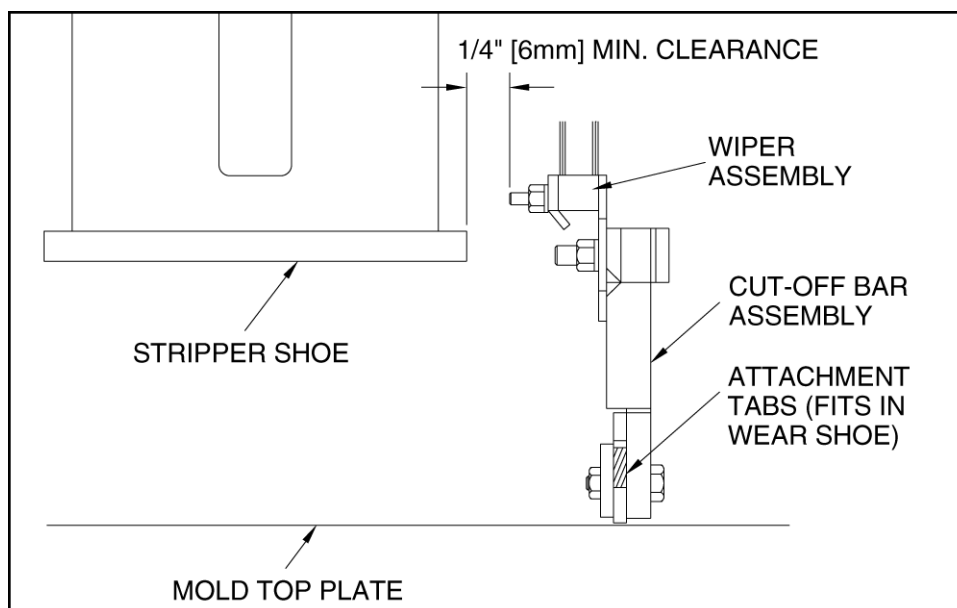

Figure 5.33 FEEDBOX ADJUSTMENT
- 5.7.11 Put in agitator grid and cut-off bar, and check feedbox alignment. There should be a minimum clearance of 1/4" [6mm] between the wiper assembly and the stripper shoe as shown in figure 5.33.